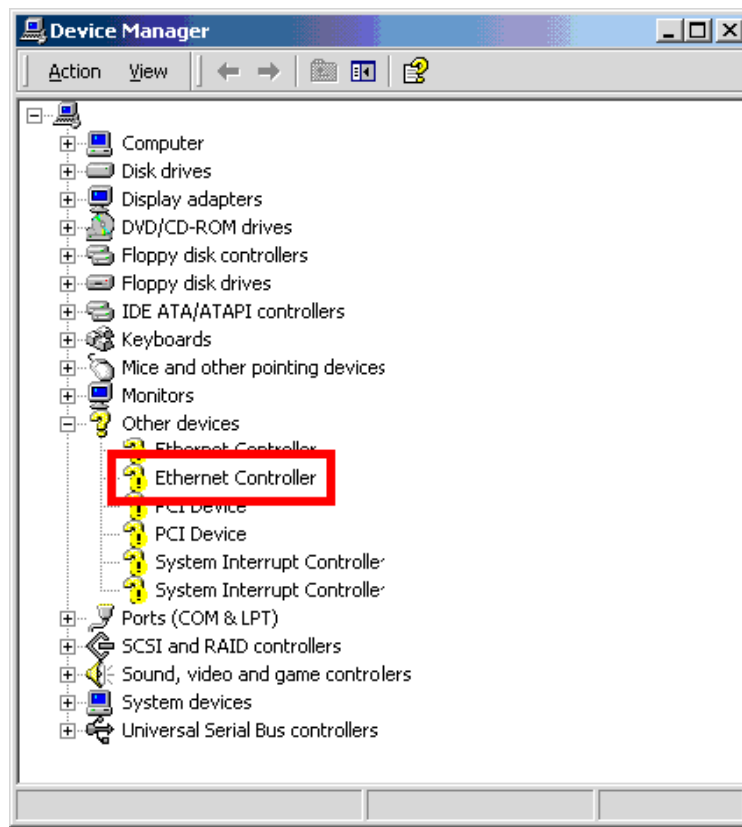

Figure 7-36: Device Manager List
Step 4: A list of system hardware devices appears (Figure 7-36).